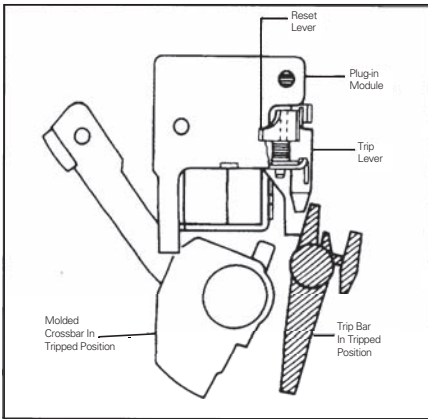

Fig. 2-7. Correct Position for Trip Lever and Trip Bar.
- i. Before plug-in module seats fully in mounting slots, press circuit breaker trip bar back against magnet armature, and seat accessory. Make sure LEST trip lever touches flat surface of trip bar (Fig. 2-7) and reset tab is operated by the handle arm.